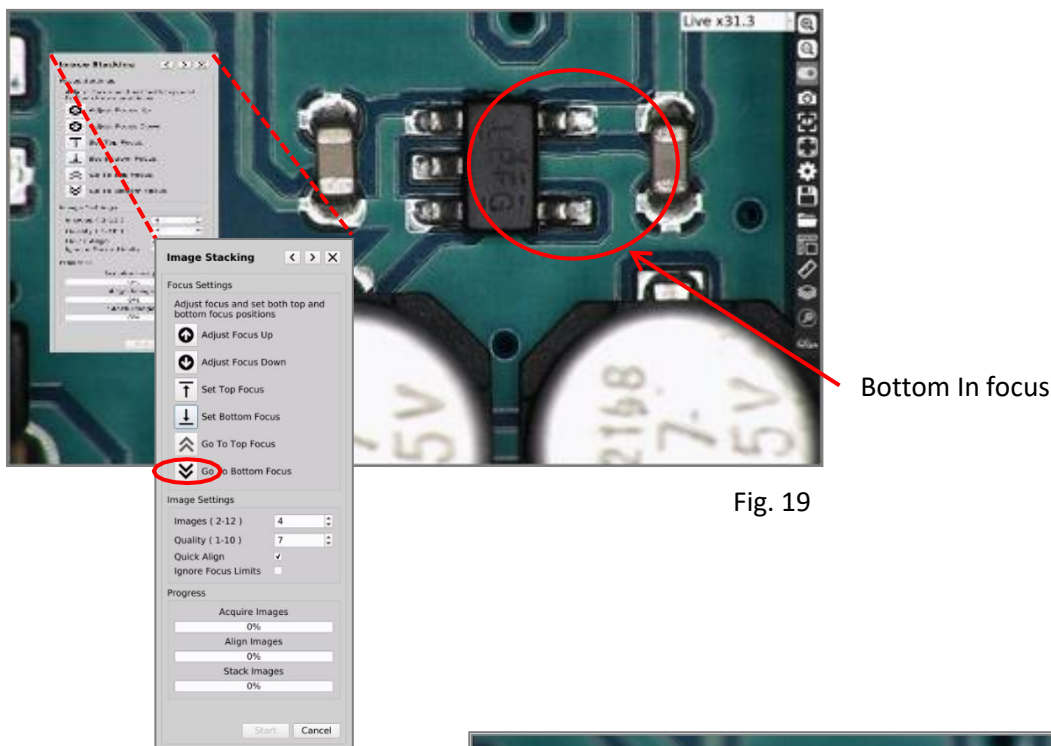

Fig. 19
2. Manually adjust the height of the camera until the bottom of the image is in focus (Fig. 19). This is done by using the height adjustment mechanism on the stand the Inspex 3 is mounted on. Click **Set Bottom Focus** and the **Go To Bottom Focus** button will become active.